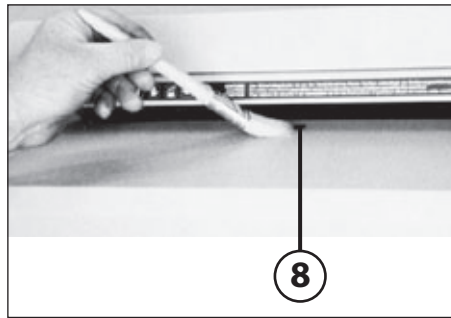

fig. 4
- Note:** For manual operation, press the forward-button (2) (fig. 2); the machine will run continuously. As soon as a sheet of paper passes through the feed slot to the cutting system, the light barrier (8) (fig. 4) is activated and switches the shredder off automatically when no more paper is presented.
**CLEANING THE PHOTOCELLS (8) (Fig. 4):**